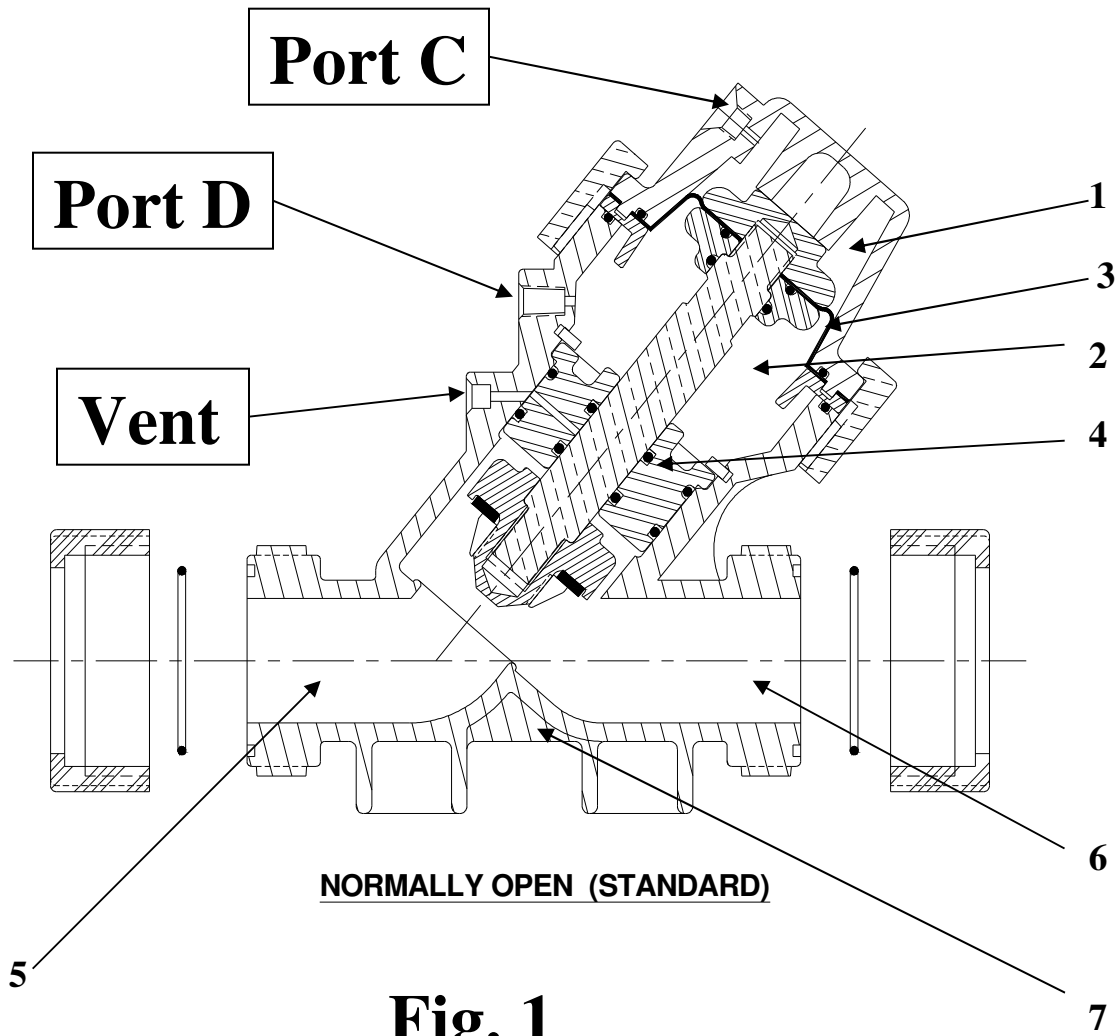

Fig. 1
- Control pressure (equal to line pressure) should be connected to valve cap (Port C, Fig. 1) on normally open valves and vent port should be left open. **DO NOT** plug vent port.
- Control pressure (equal to or slightly greater than line pressure) should be connected to (Port D, Fig.1) on normally closed valves.